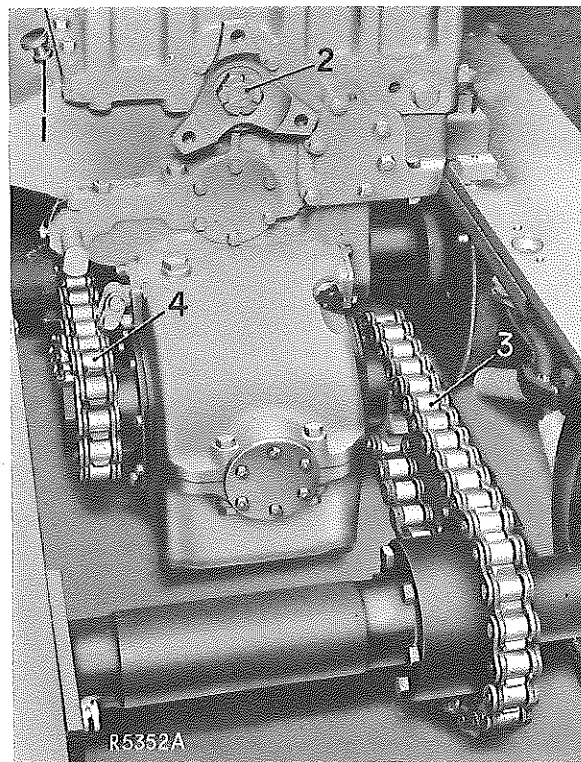

Fig. 38. TRANSMISSION
- (a) Remove the wheels and axles from the machine and turn the outer periphery of the wheel down to the dimensions indicated in columns A and B (Fig. 38). To allow for the correct location of the tyre the rim must be reduced by  $\frac{1}{4}$  in. on the outer face of the wheel centre.